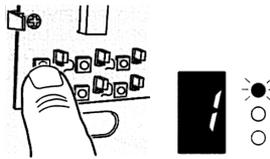

Figure 5
- 2 Briefly press the button for the channel that the transmitter is going to be added into, the channel number shows on the display. See Figure 5.
- 2 Press and hold the button for the channel to review until the alarm LED starts to blink then release the channel button. See Figure 5.
- Keep holding the button down. See Figure 5.